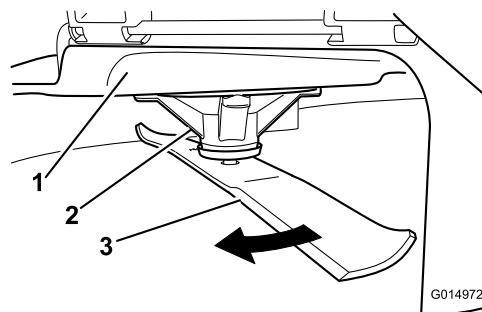

Figure 55
2. While wearing thickly padded gloves, or other adequate hand protection, slowly rotate the blade to be measure into a position that allows effective measurement of the distance between the cutting edge and the level surface the machine is on (Figure 55).